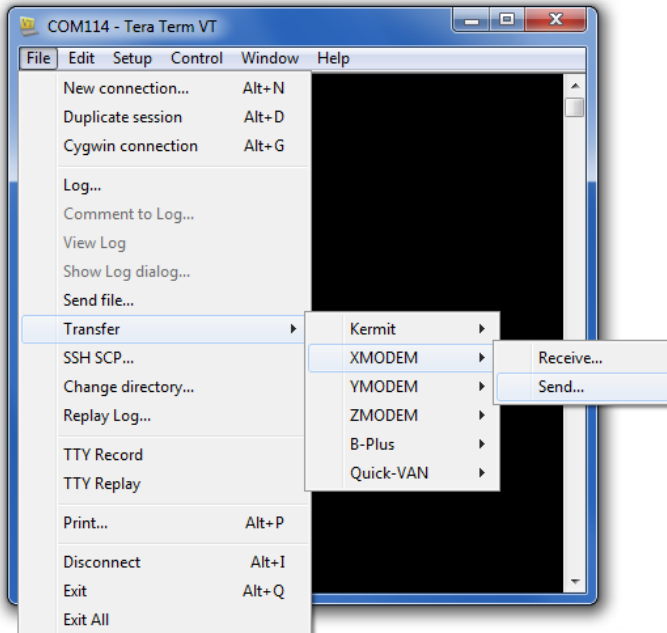

Figure 24: Screenshot showing how to send the file using XMODEM protocol
- When the bootloader displays `ccc`, as shown in Figure 24, it is ready to receive the application bin file.